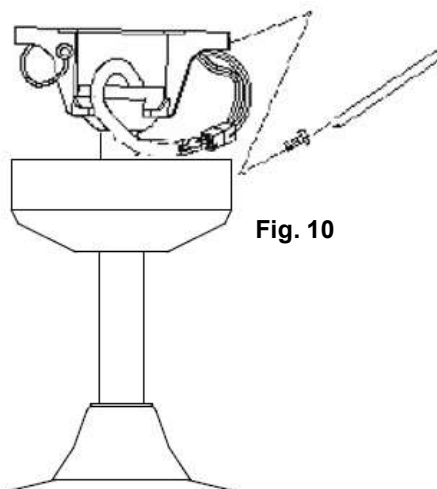

Fig. 10
- Cover the mounting bracket with the canopy. Ensure all electrical wiring is tucked inside the canopy and that the wires are not damaged during this step. Secure the canopy to the hanger bracket using the screws provided. (Fig. 10)